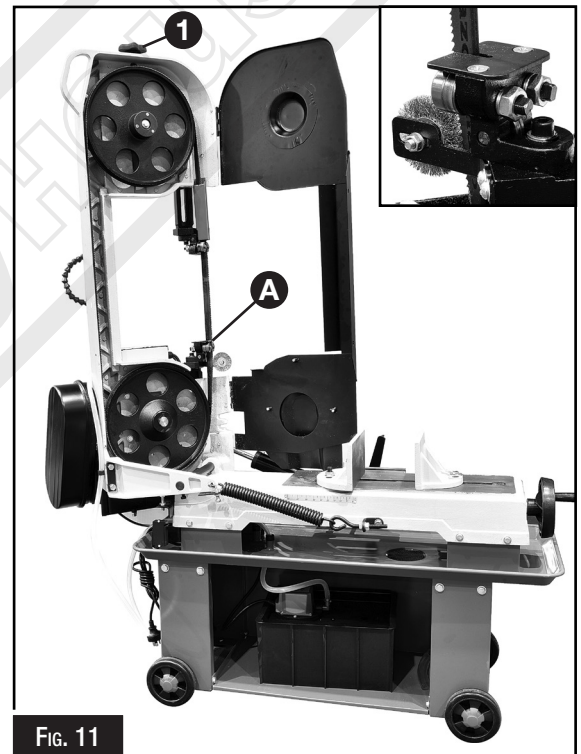

FIG. 11
1. Install blade between wheel and insert blade between bearings on blade guides (A, Fig. 11).
7. Tighten blade by turning blade tension wheel (1, Fig. 11) two full revolutions. Blade is now properly tensioned and ready for use.